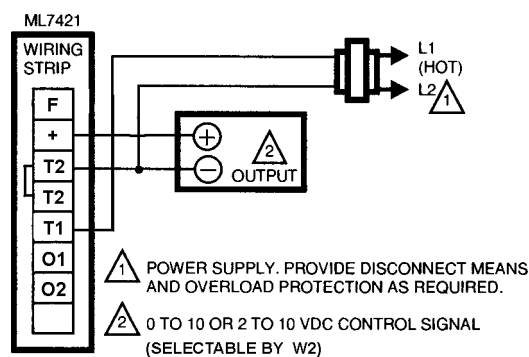

Fig. 4. ML7421 typical wiring diagram.
- Using the wiring diagrams in Fig. 4 through 6, connect the power and control wires to the ML7421. Make sure that all wiring is correct.